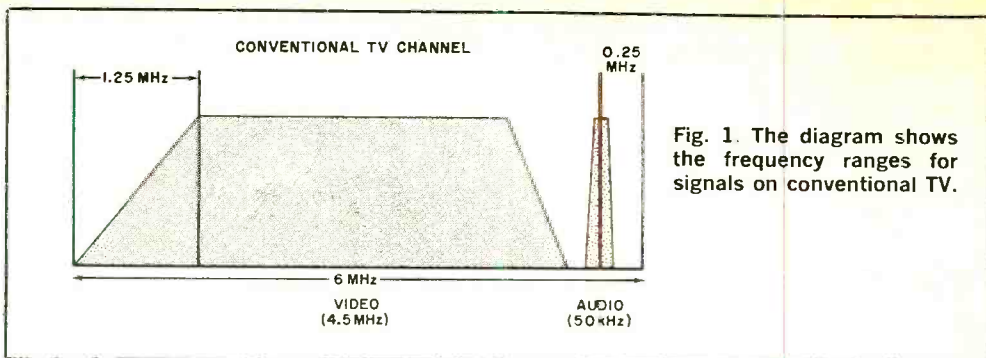

Fig. 1. The diagram shows the frequency ranges for signals on conventional TV.
**Technical Data.** Narrow bandwidth is the key to slow-scan TV. As a comparison, commercial, or home-type, TV channels are each 6 MHz wide (see Fig. 1), while SSTV is a mere 1100 Hz wide. The 525-line, 30-frame/second commercial system used in the U.S. requires a video span of roughly 4.5 MHz, even with the suppression of one